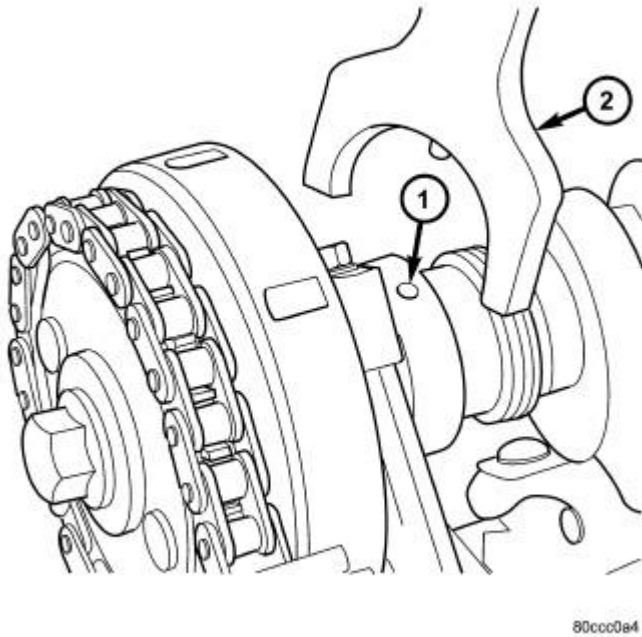

Fig. 30: Camshaft & Camshaft Holder
6. Hold the camshaft with the Camshaft Holder (special tool #8428A, Holder, Camshaft), while removing the camshaft sprocket bolt and sprocket. Refer to **Fig. 30**.